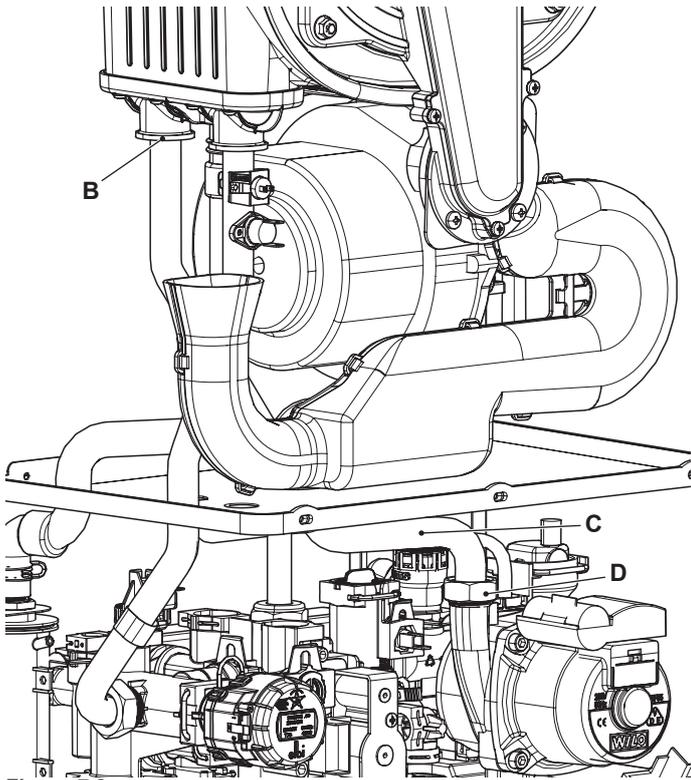

Figure 7.3
- 5 Loosen the connection D (Figure 7.3), and pull up and turn to the left the pipe C.